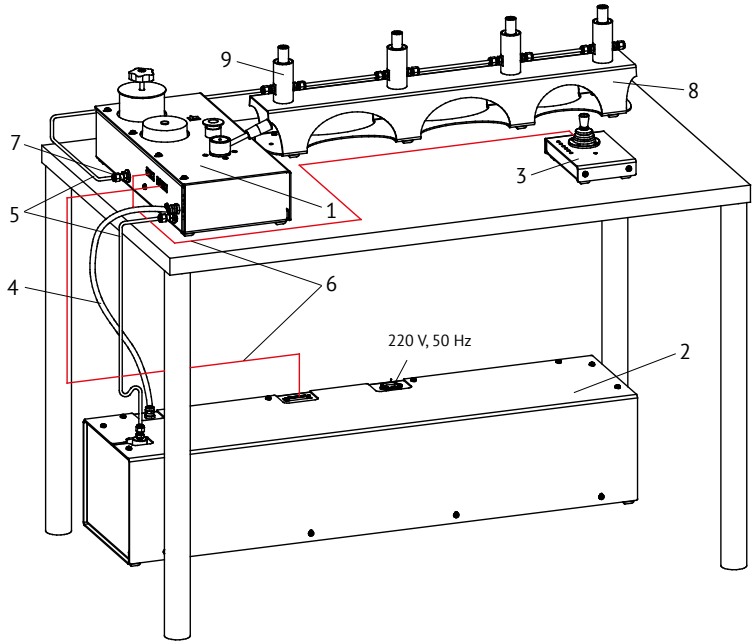

Fig. 1. External view of the system:
4.1 The external view of the system is given in fig. 1.
4.6 GSKA consists of four main parts – control cabinet 1 (Fig. 1), power unit 2, joystick 3, and collector 8. These units are interconnected by: low pressure pipeline 4, high pressure pipelines 5, and two data cables 6. External devices and collector are connected with the help of fitting 7. This design is based on comfortable placement on working place. Power unit as a rule is located on the floor under the table, control cabinet, joystick and collector are located on the table.